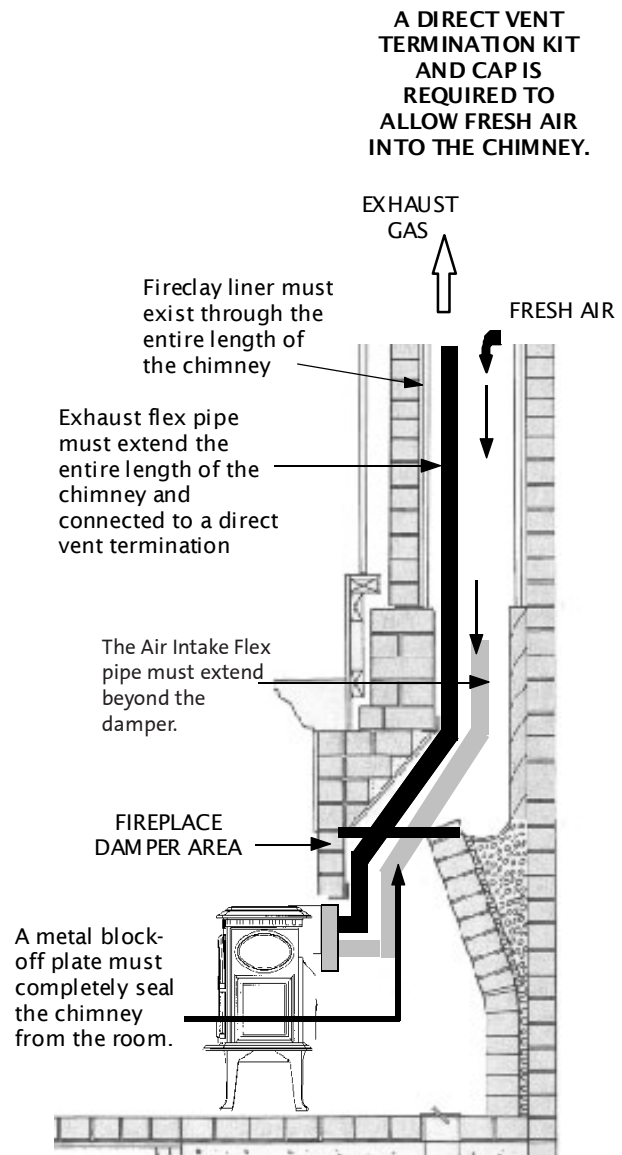

Figure 8. Co-linear Vent installed through masonry chimney.
- The horizontal termination cap must maintain a 3" clearance to any overhead combustible projections exceeding 2 1/2" or less. Maintain 12" clearance from projections exceeding 2 1/2". See Figure 8, page for complete termination clearance information.